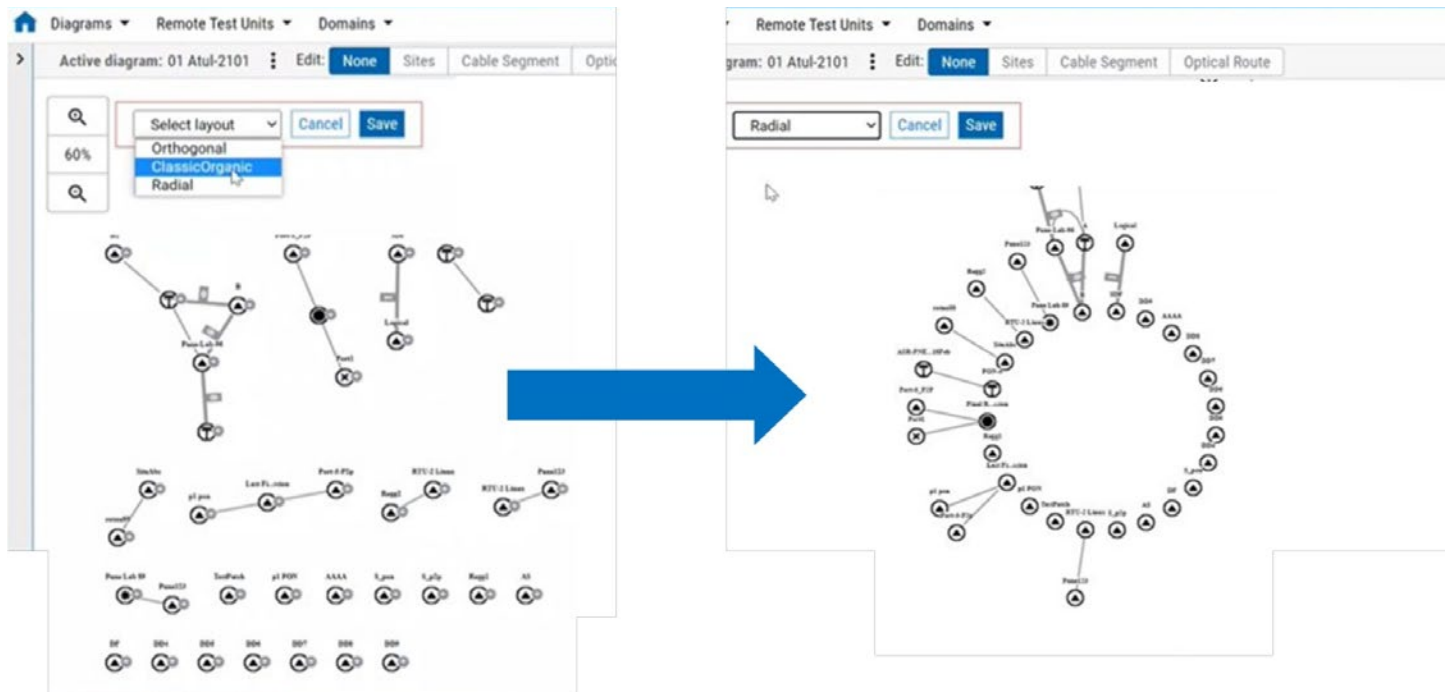

Figure 36: Organizing elements of a diagram in radial view within a single action.
- Support diagrams to scale from monitoring few critical sites to countrywide topologies. A diagram regroups a customer-defined batch of monitored optical routes together (e.g., a specific region) to allow users to focus only on routes relevant to their needs and navigate from one to another. Optical routes of diagrams can be automatically organized into schematic topological views: Radial view, Organic view, Orthogonal view (Figure 36).